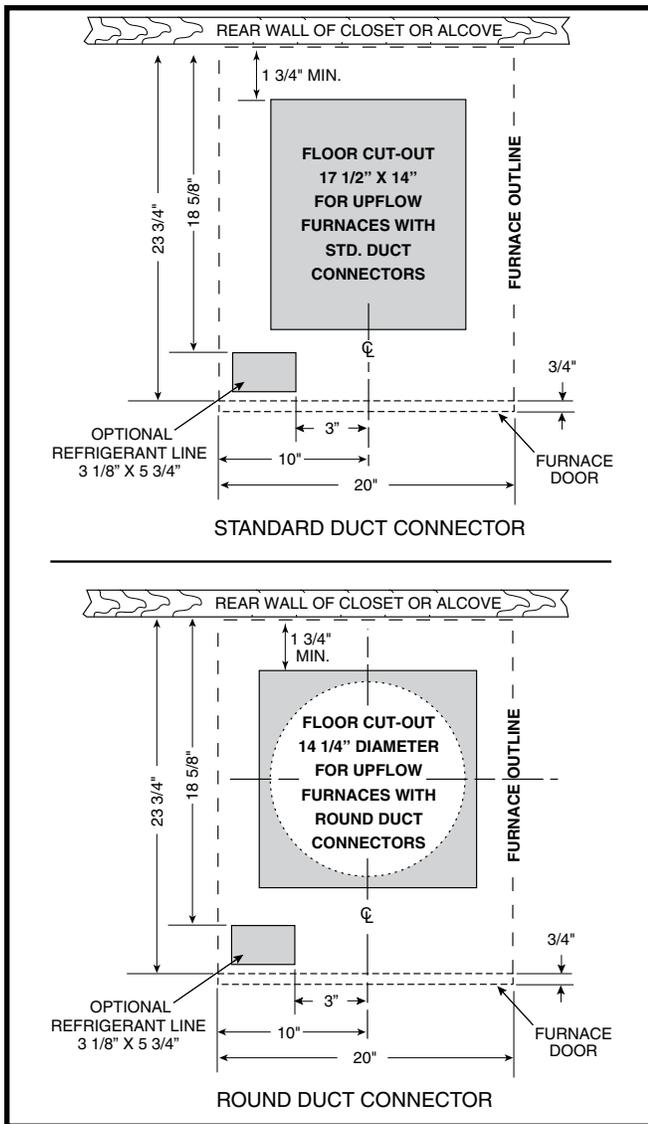
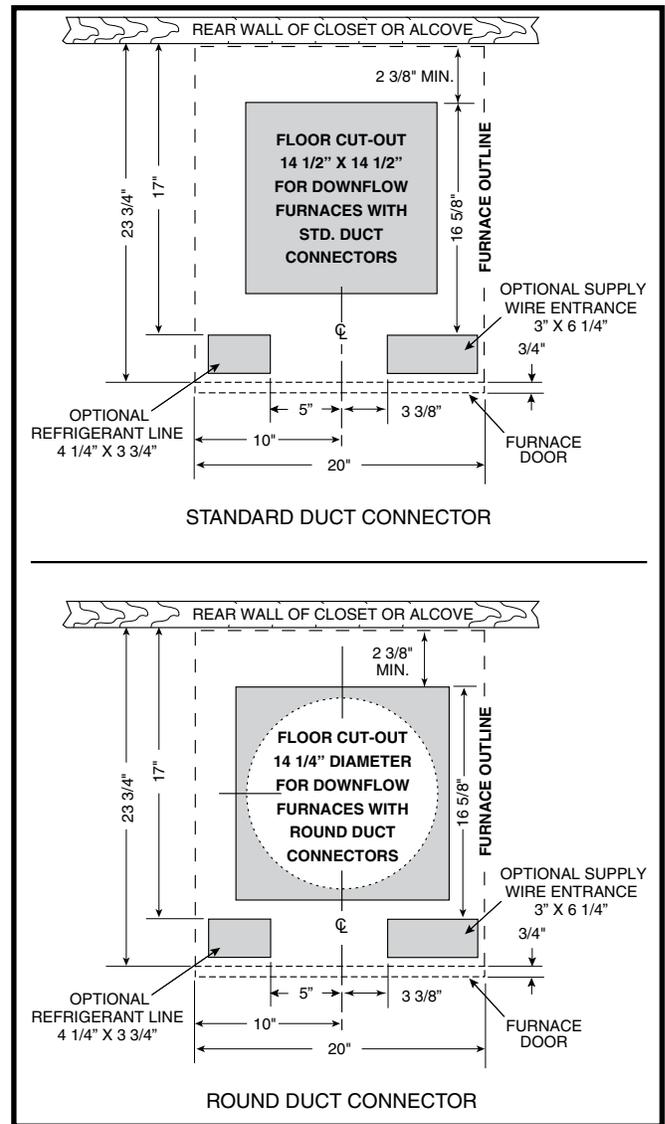

Figure 5. Cut-Out Dimensions for Upflow Furnaces
Figure 6. Cut-Out Dimensions for Downflow Furnaces
Floor cut-outs must be carefully located to avoid misalignment of the furnace and air duct. Standard and round cutouts for upflow furnaces are shown in Figure 5. The cutouts for downflow furnaces are shown in Figure 6..
2. Using the centerline as a starting point, draw the rest of the duct cut-out to the dimensions shown in Figure 5 or Figure 6.